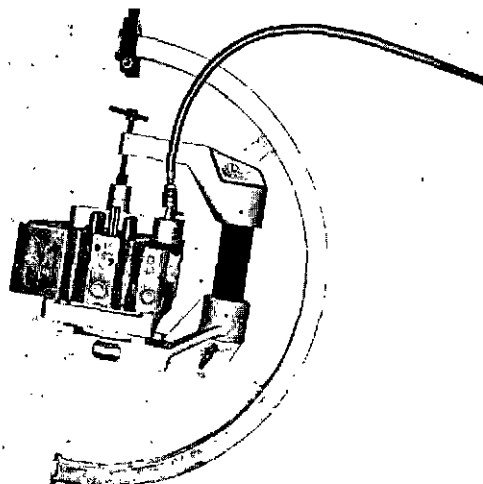

Fig. 2-6 (N10282). The Cylinder Head Installed In The ST-102.
3. Install the cylinder head in the Part No. ST-1012 Hydrostatic Tester and the Part No. ST-1013 Base Plate, Fig. 2-6